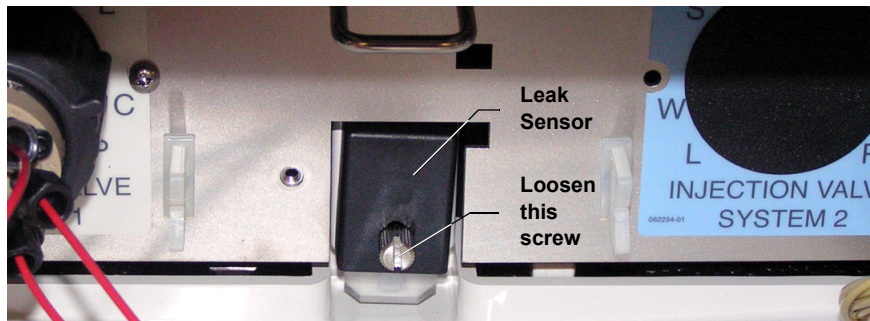

Figure 10-35. Leak Sensor
4. Loosen the screw on the front of the leak sensor (P/N 062437) (see Figure 10-35). **Note:** The screw remains attached to the sensor.